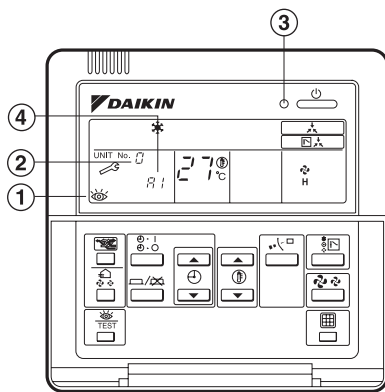

figure 12
- If the display “ TEST”, the unit number and the operation lamp flash and the malfunction code appears; (Refer to figure 12)